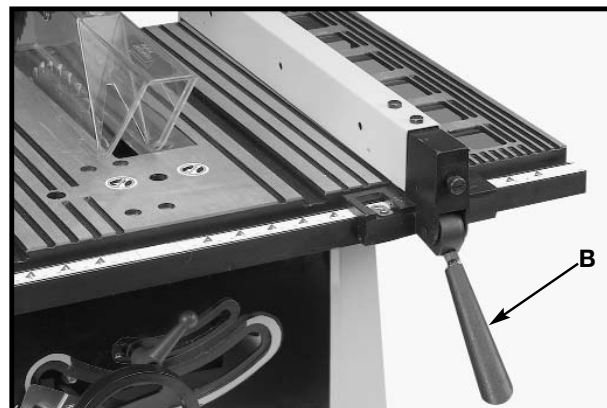

Fig. 28
3. The rip fence is usually set up on the right hand side of the saw table. Lift the lock handle (B) Fig. 28 and position the fence on the table. Push down on the handle (B) Fig. 28 to lock the fence in place.